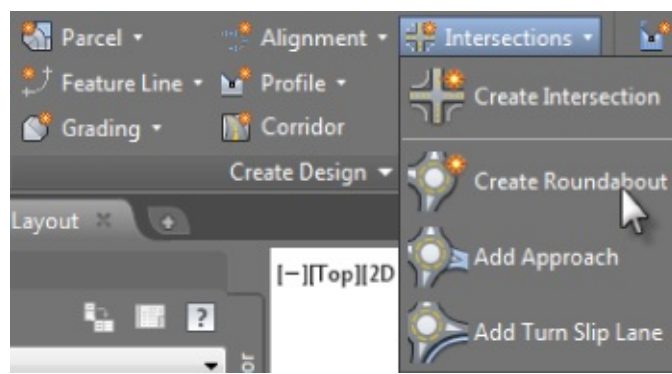

Figure 10.60 Access the Create Roundabout tool from the Home tab.
2. From the Home tab > Create Design panel, select Intersections > Create Roundabout, as shown in Figure 10.60.